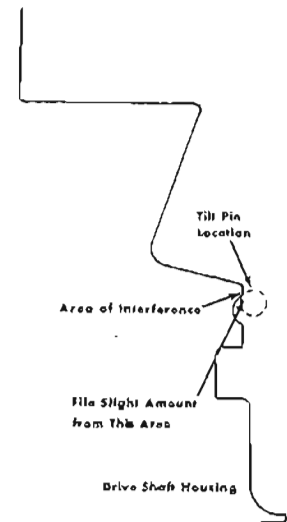

Figure 2. Tilt Pin Stop Area
4. Check the tilt pin recesses on MerCruiser 120 and 160 drive shaft housings. They may not align with tilt pin and, thus, will not allow drive unit to travel down far enough on tilt pin. Remedy: File a slight amount of metal from top end of tilt pin stop area. (Figure 2) It may be necessary to file from either one or both sides. Remove only enough metal to allow reverse hooks to engage tilt pin freely.